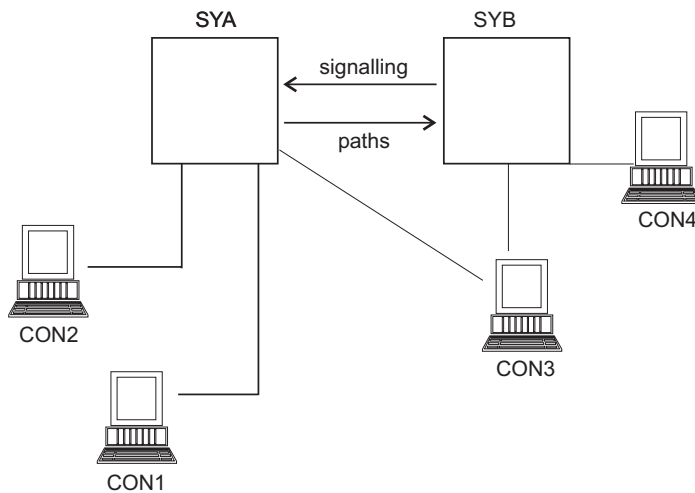
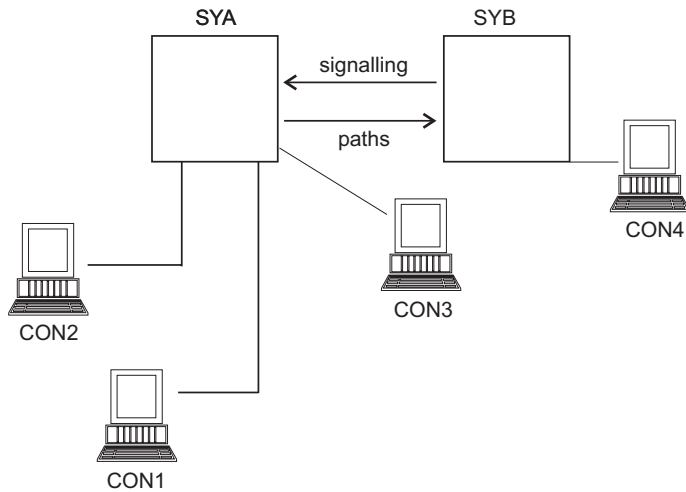

Figure 3. Console Configuration in a Sysplex with Two Systems and Four MCS Consoles
Figure 4. Console Configuration in a Sysplex with Two Systems and Four MCS Consoles
In Figure 3, systems SYA and SYB share the same CONSOLxx member. SYA has three physically attached consoles (CON1, CON2, and CON3); SYB has two physically attached consoles (CON3 and CON4).
- A console can be active on only one system at a time. In Figure 3 on page 31, CON3 is physically attached to both SYA and SYB. Without specifying SYSTEM(SYB) for CON3, CON3 would become active on either SYA or SYB, whichever system joins the sysplex first. Specifying SYSTEM(SYB) ensures that CON3 is activated only on SYB.
You can define separate CONSOLxx members for each system in the sysplex. Like Figure 3 on page 31, Figure 4 on page 33, shows SYA with three physically attached consoles (CON1, CON2, and CON3) and SYB with one physically attached console (CON4). Console statements are defined in two CONSOLxx members, one for each system in the sysplex.